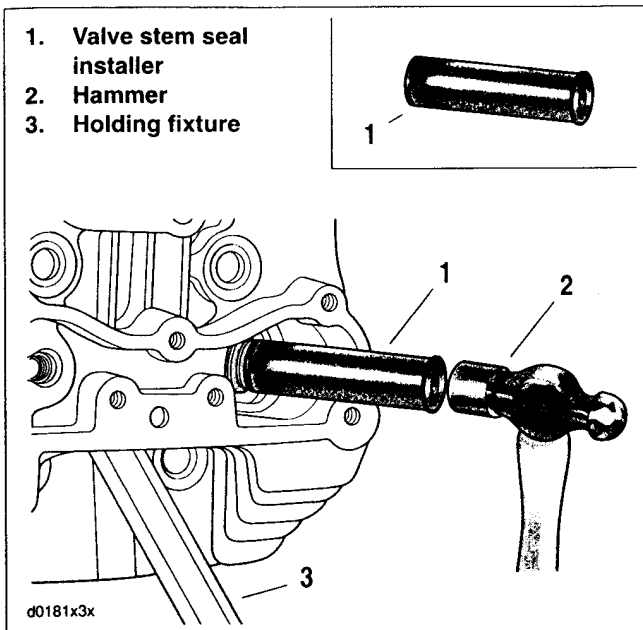

Figure 3-105. Tap Installer (Part No. HD-34643-A)
13. See Figure 3-105. Install valve stem seal using VALVE STEM SEAL INSTALLER (Part No. HD-34643-A).
- a. Slide the installer tool (1) over the valve stem seal using valve stem as pilot. The tool bore allows insertion of the valve stem, while the counterbore fits over the valve stem seal.